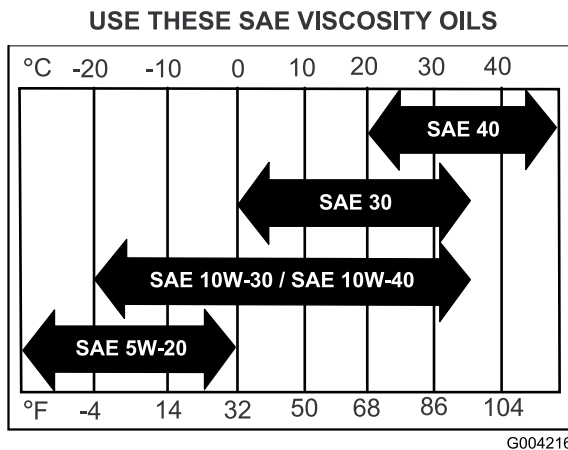

Figure 31
4. Fill the crankcase with the specified type of new oil; refer to Figure 31.